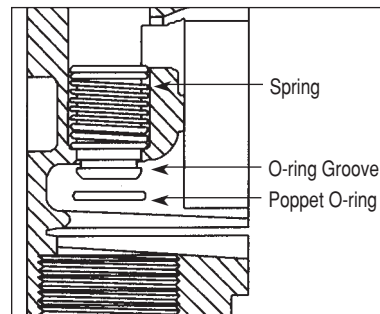

Figure 8
- Remove the O-ring with a small screwdriver or similar tool. Take care not to damage the poppet or O-ring. (Figure 8)